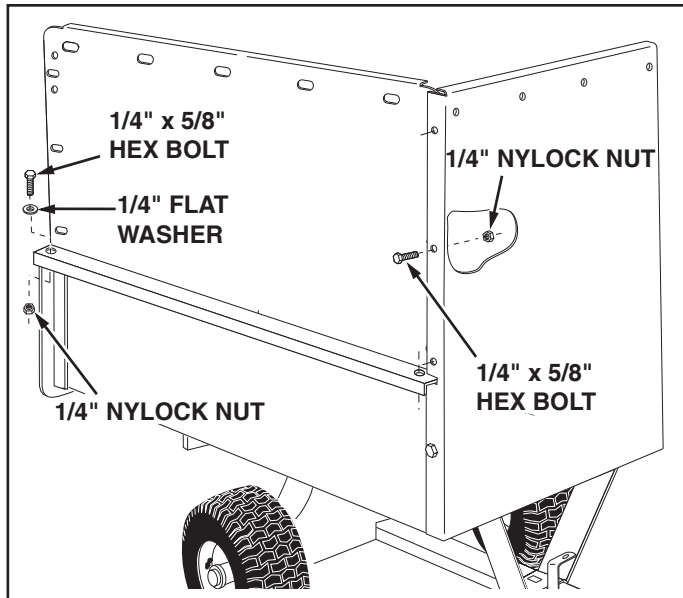

FIGURE 11
- Place a side panel on top of the cart bed flange, inside the lip of the front panel. Fasten the side panel to the front panel using three 1/4" x 5/8" hex bolts and 1/4" nylock nuts. Fasten the side panel to the cart bed flange using two 1/4" x 5/8" hex bolts, 1/4" flat washers and 1/4" nylock nuts. **Tighten**. See figure 11. Repeat on other side.